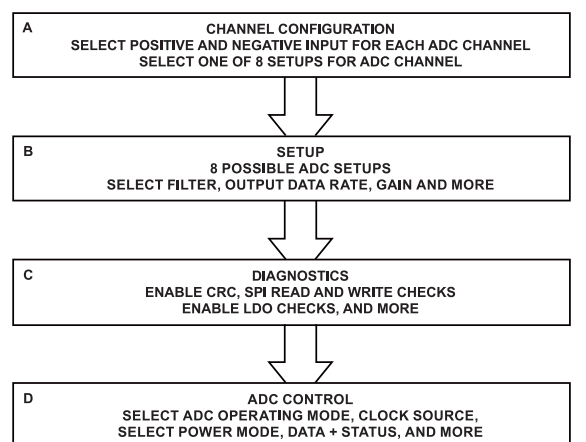

Figure 68. Suggested ADC Configuration Flow
Figure 68 shows an overview of the suggested flow for changing the ADC configuration, divided into the following blocks:
- Channel configuration (see Box A in Figure 68)
- Setup (see Box B in Figure 68)
- Diagnostics (see Box C in Figure 68)
- ADC control (see Box D in Figure 68)